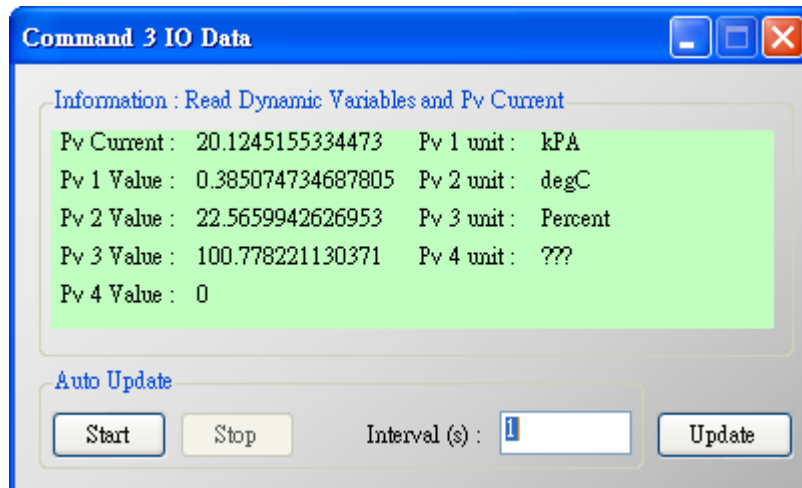

Figure 2-6 The I/O Data screen of the "Default CMD(3)" => OK
(6) The I/O Data of the “Default CMD(3)” is **OK** like Figure 2-6.